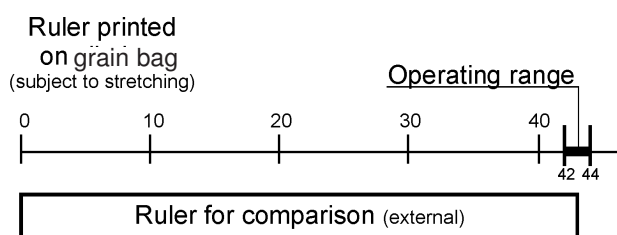

Figure 3 – Ruler printed on the silo bag
1) The machine's braking force is directly related to the resulting stress in the grain bag: the pressure on the brakes should be adjusted so as to make the best use of the grain bag's storage capacity, i.e. to apply the greatest possible stress to the grain bag material according to the manufacturer's provisions. As shown in Figure 3, most grain bags have some kind of ruler or indication printed on their surface that can be matched with a measurement template supplied by the manufacturer in order to determine the degree of stress on the plastic material.